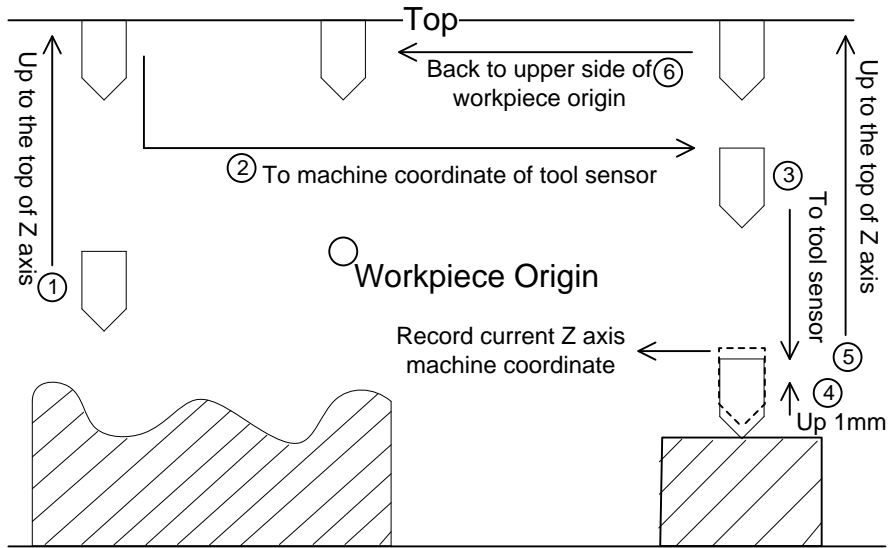

Fig. 4-28 First time calibration
- 2) Click  button to perform the first time calibration. The system automatically records the current machine coordinate of Z axis. The process is illustrated as Fig. 4-28.